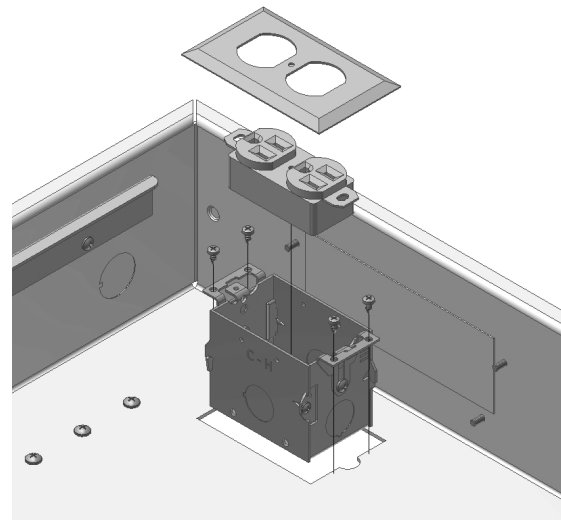

Figure 2
Step 2 – Attach the electrical junction box to one of the knockouts located on the bottom of the enclosure (Figure 2) with four self drilling screws.